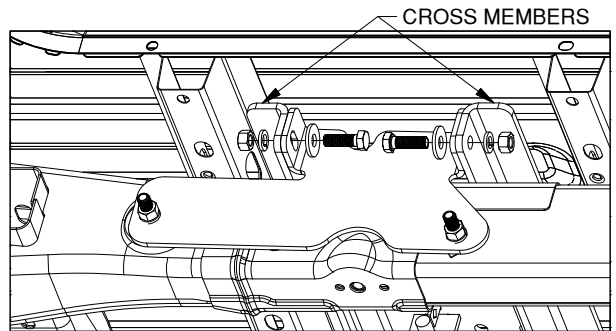

Figure C5: View of driver side wheel well.
4. **Attach sideplates to cross members.** Attach the sideplates to the cross members by passing two 1/2" X 1-1/2" cap screws and 1/2" flat washers through the sideplate and cross members and securing with 1/2" lock washers and 1/2" finish nuts, as shown in figure C5. Do not fully tighten at this time. Repeat steps 3 & 4 on the other side of the truck.